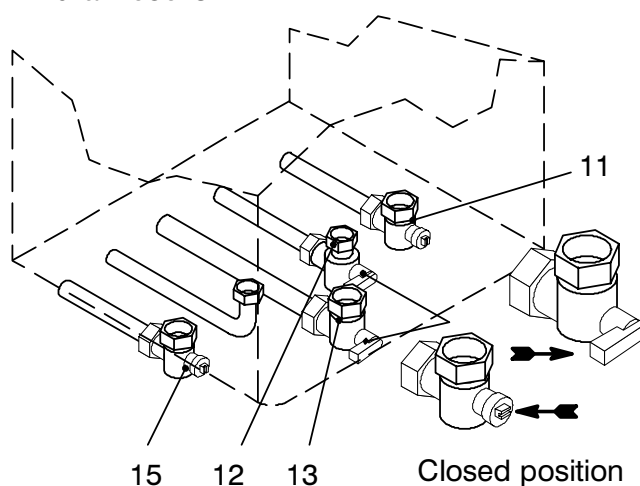

Fig. 9.3
- 1 Check that the gas cock (13 in Fig. 9.3) fitted under the boiler is turned off and the appliance is switched off at the mains isolating spur.
- 1 Turn off the d.c.w. inlet isolating valve (12 in Fig. 9.3) and turn on the hot water taps and any drain cocks.
- 1 Close the c.h. isolating valves (11 and 15 in Fig. 9.3).